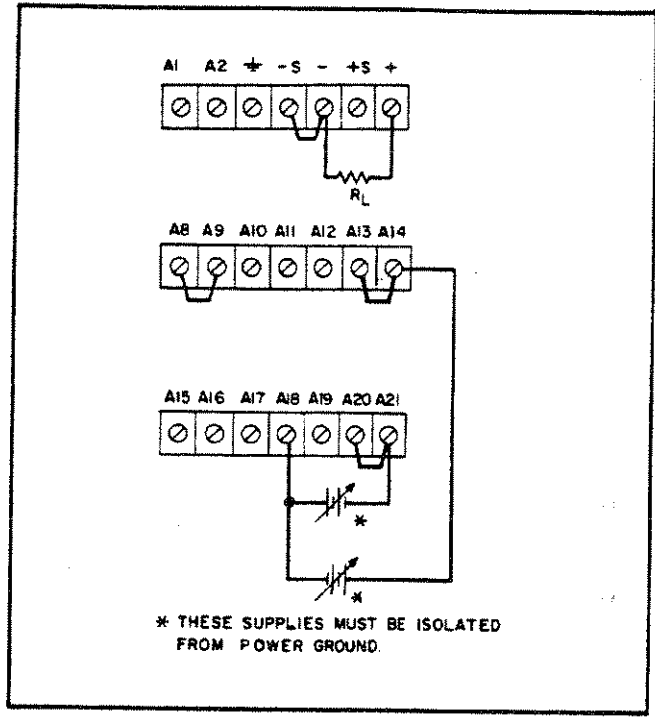

Figure 3-8. Remote Voltage Programming, Constant Current
**3-52 Voltage Programming, Constant Current.** Voltage programming of the output current can be accomplished in all three operating modes (power supply, variable gain amplifier, and fixed gain amplifier). Positive and negative dc programming voltages are connected to terminals A14 and A21 respectively as shown in Figure 3-8. The positive or negative output current will vary linearly with changes in the programming voltages. The output current varies at a rate determined by the programming coefficient. The programming coefficient is 2 amps/1 volt. The maximum rated output current is 2A, therefore, the maximum programming voltage is 1 volt.